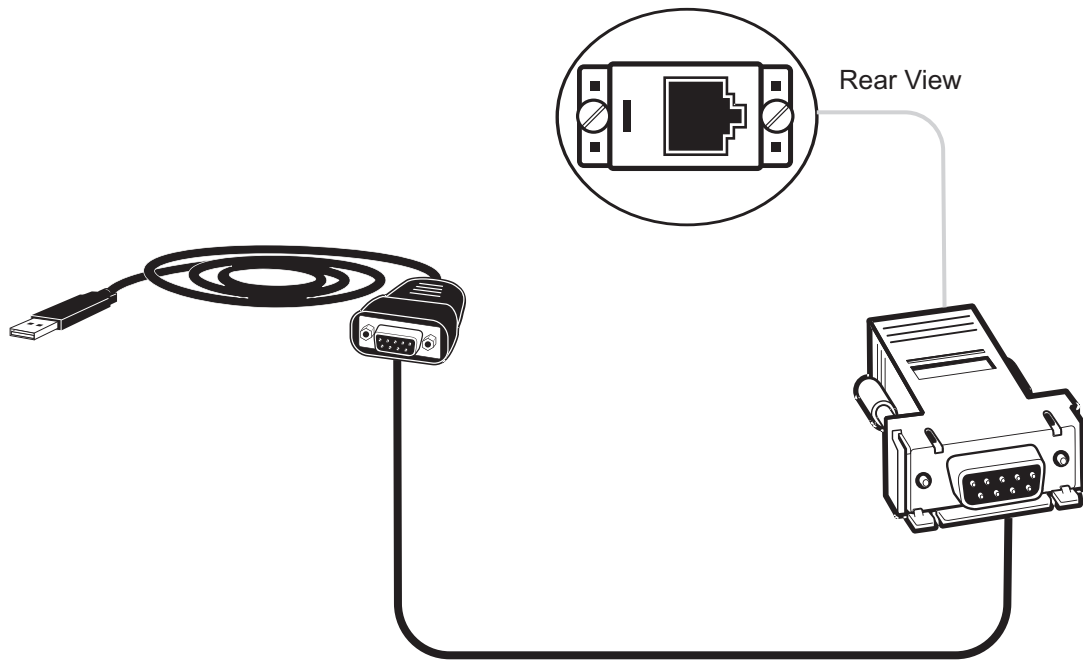

Figure 3.2 Conceptual View of a Serial Connection from the 800 Series Gateway to a Computer
2. If your computer’s serial port features a DB9 connector, use the DB9 to RJ-45 adapter supplied with your 800 series gateway. If your computer’s serial port features a USB connector, you will need to provide a USB to DB9 adaptor. Refer to figure 3.2 on page 41.